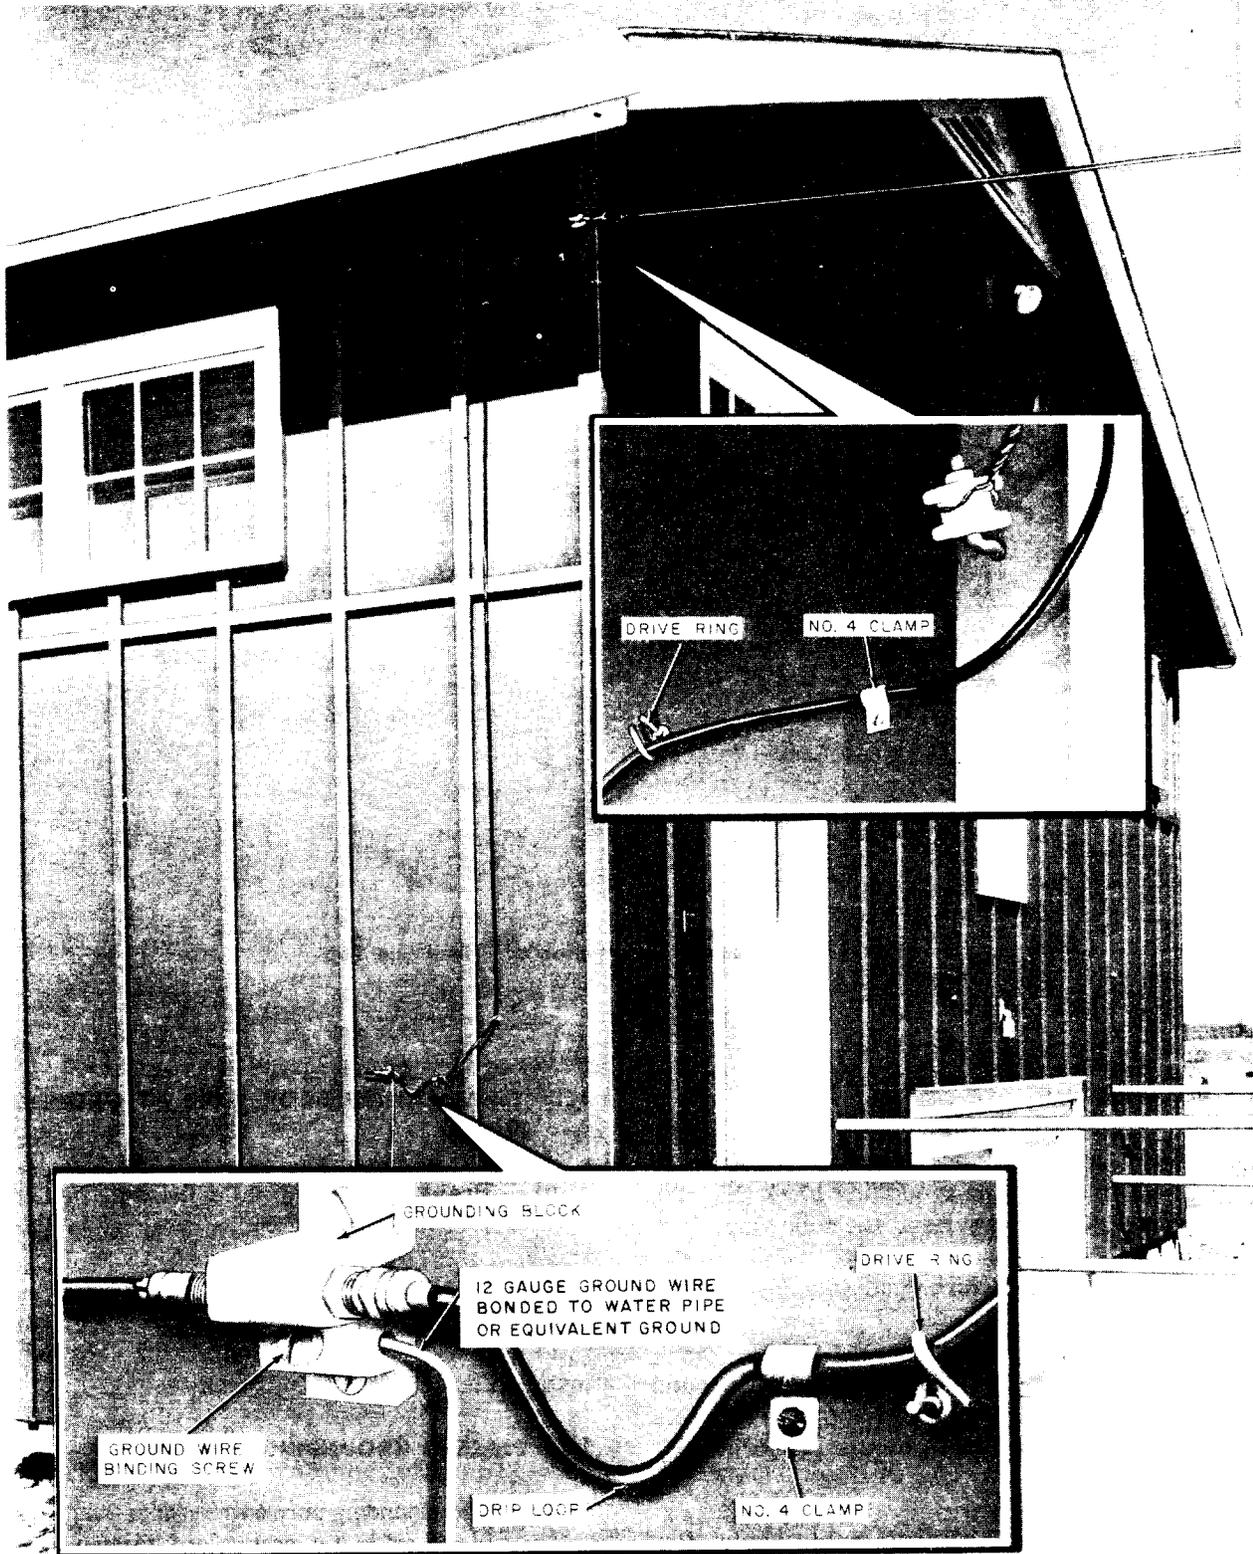

Fig. 20—Building Run
**10.01** Run the coaxial wire from the first house attachment to the grounding block (Fig. 20) in a standard manner observing the following:
**11.02** Connect the F-59 connector to the grounding block. Figure 20 illustrates the coaxial wire installed on the grounding block.